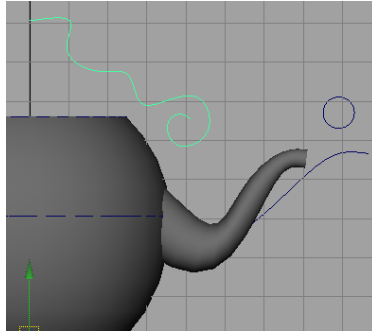

*Figure 3-77 The refined shape of the spout*
8. Modify the shape of the spout using **Scale Tool** and **Move Tool** to form the shape of the spout, as shown in Figure 3-77.